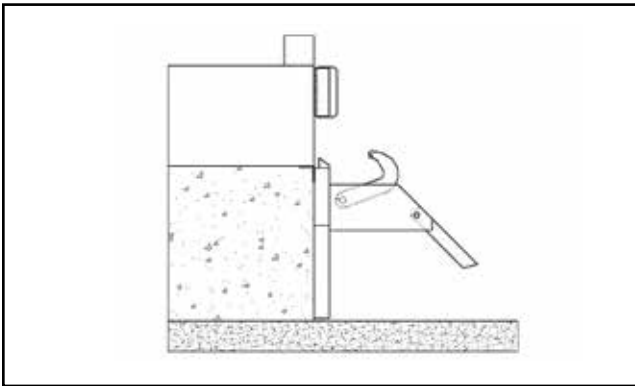

Figure 5-6-22 Restraint locked
3. Manually position Hook as shown in Figure 5-6-22 to obtain control box flashing GREEN light and silenced ALARM.